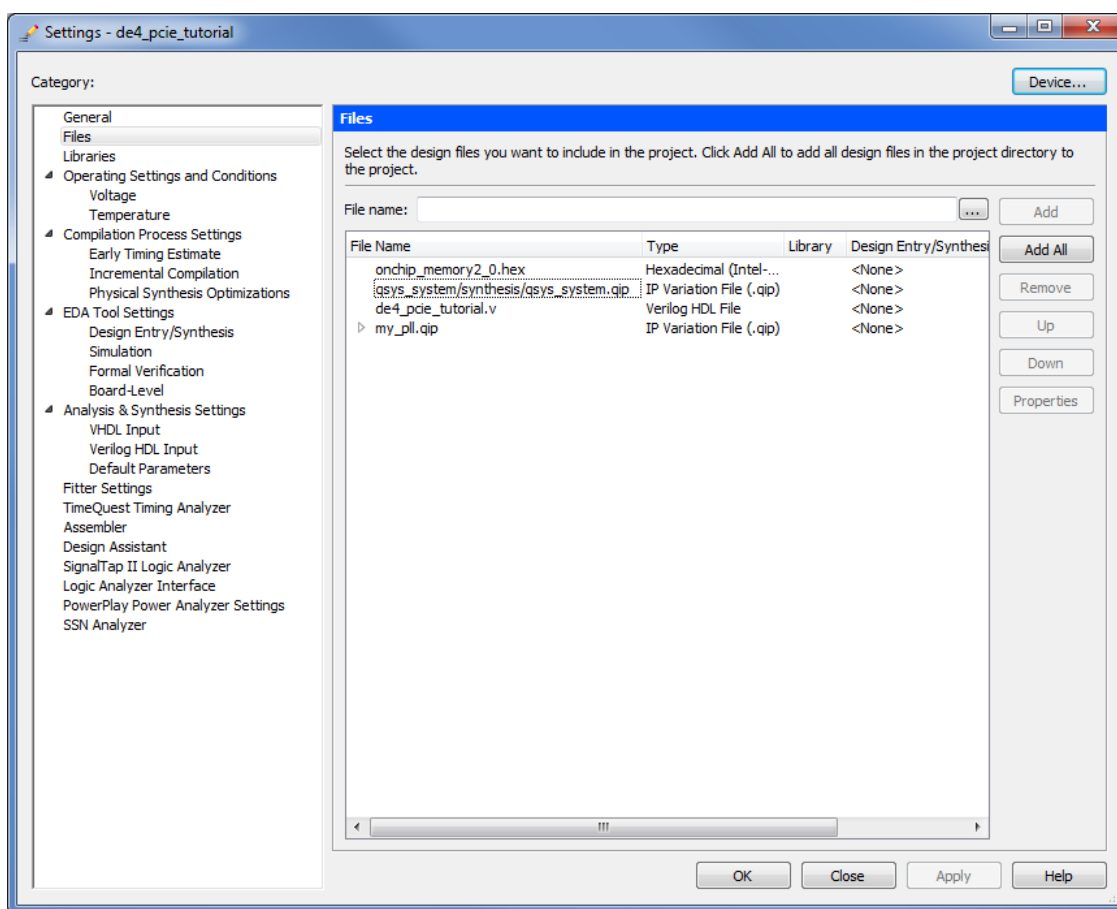

Figure 19. Files settings for the Quartus Project
2. Add the *de4\_pcie\_tutorial.v* file, the *qsys\_system.qip* file, the *my\_pll.qip* file, and the *onchip\_memory2\_0.hex* file to your Quartus II project as shown in Figure 19. The *onchip\_memory2\_0.hex* file is used to initialize the on-chip memory and can be found in the directory *design\_files*, which can be downloaded along with this tutorial from the Altera University Program website. It contains the executable file of the demo application for the Nios II processor, which will be used in the next section.